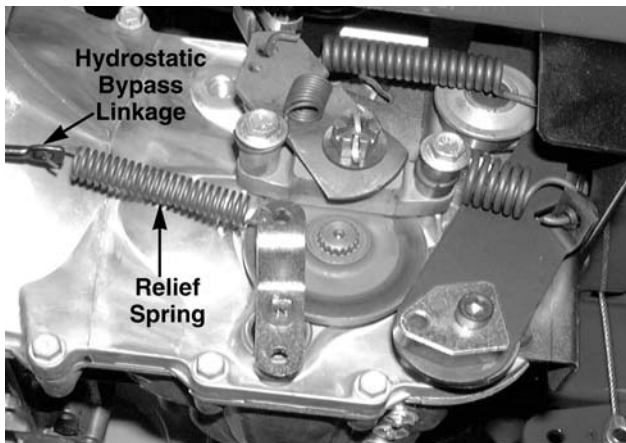

Figure 9-57
18. Remove the hydrostatic relief spring from the hydrostatic bypass linkage and set it aside. See Figure 9-57.